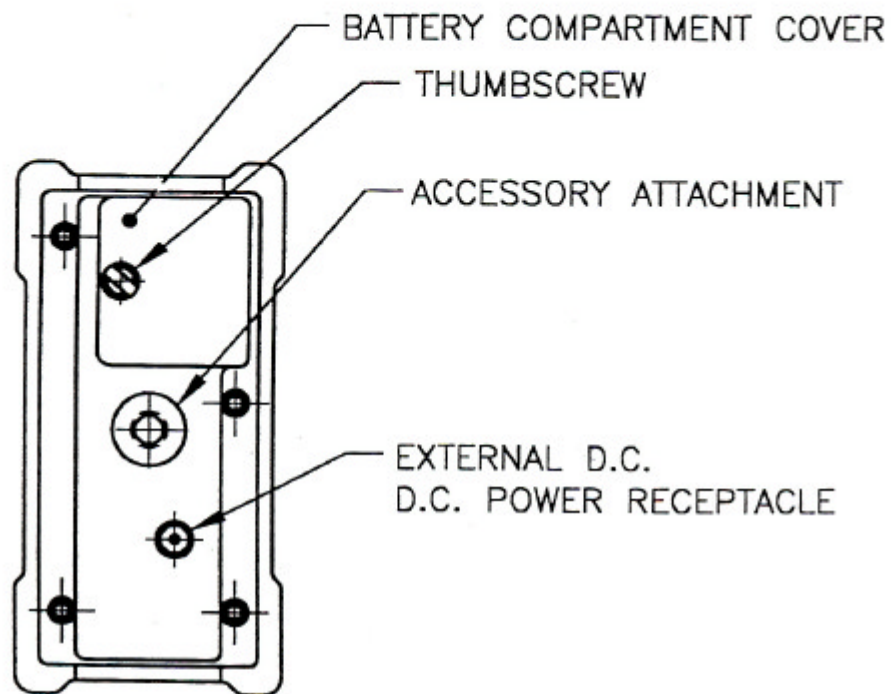

Figure 3 – BOTTOM BASE (MODEL pDR-1000AN)
- Tripod mounted. The unit can be attached to any standard tripod using the threaded bushing on the bottom of the monitor (see Figure 3).
Refer to Figures 3 (for model *p*DR-1000AN) or 4 (for model *p*DR-1200). The base of the *personal*DataRAM contains the following: a) internal battery compartment cover, b) external DC power input receptacle, and c) threaded bushing for the attachment of optional battery pack, tripod, or other mounting/support hardware.
- Loosen thumbscrew that secures the battery compartment cover (see Figure 3 or 4), and remove that cover.
A universal line voltage AC to DC power supply (MIE model *pDR-AC*) is provided as standard accessory with the *personalDataRAM*. This power supply can be used with any line with a voltage between 100 and 240 VAC (50 to 60 Hz). When using that power supply, its output plug should be inserted into the external DC receptacle at the base of the *personalDataRAM* (see Figure 3 or 4). Insertion of that connector automatically disables the internal 9V battery of the instrument. Removal of the *pDR-AC* plug from the instrument automatically re-connects the internal 9V battery.